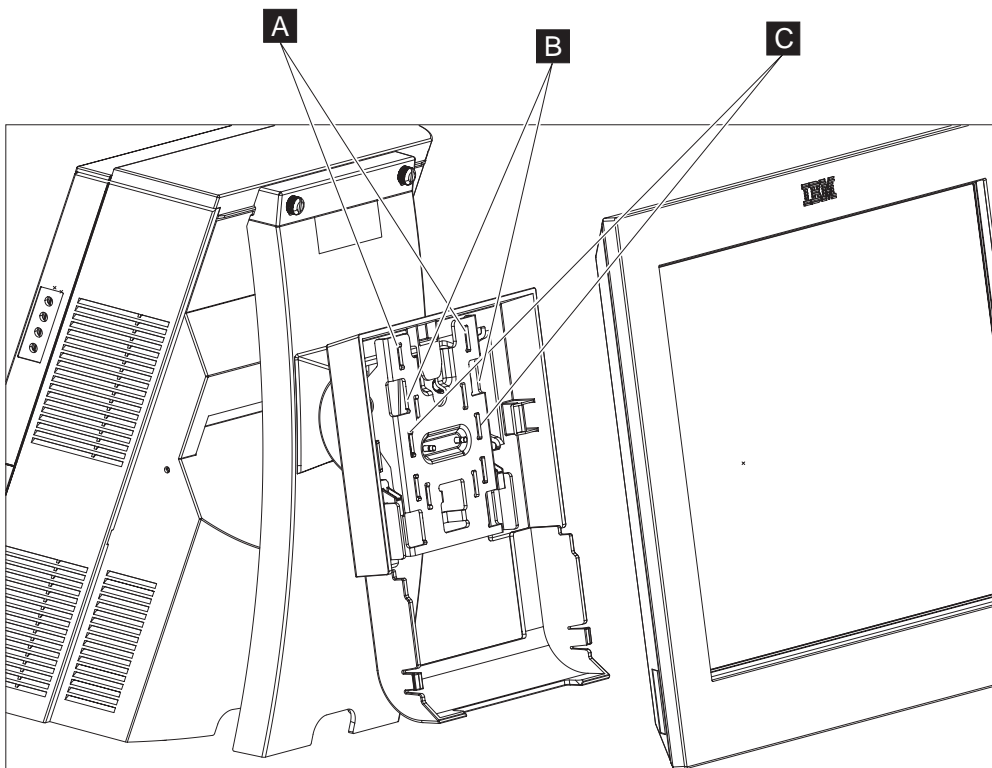

Figure 45. 4820 mounting positions
- Top, **A** in Figure 45.
- Middle, **B** in Figure 45.
- Bottom, **C** in Figure 45.